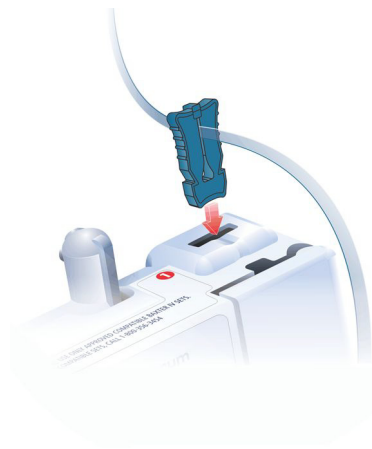

Figure 13. Inserting the Slide Clamp into Load Guide 1.
4. Orient the slide clamp (with the tear drop cutout pointing down) and insert it into the keyhole (loading guide 1) at the top of the Pump. See Figure 13.